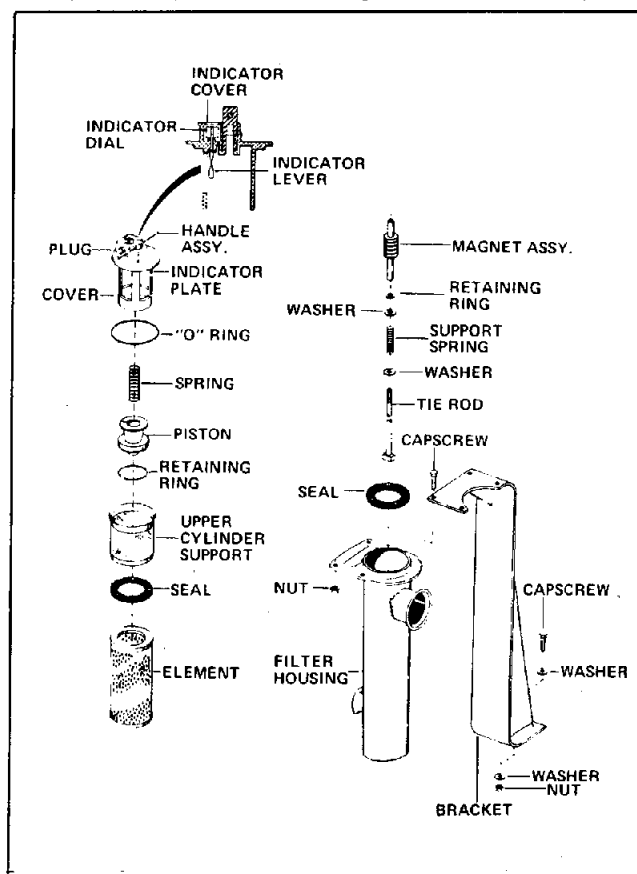

Figure 25. Rosean Hydraulic Filter
2. Remove components as shown in Figure 25. Inspect the magnet for metal. Metal larger than "fuzz" size should be investigated to determine its origin.
4. Reassemble the filter as shown in Figure 25. Before installing the cover, loosen the inlet line to the main pumps at the pump fittings. Fill the filter with clean fluid filtered through a 200 mesh screen. Continue filling until air-free fluid comes from the loosened lines. Make sure the filter is completely full of fluid, then install the cover and tighten hand tight using the tee handle.